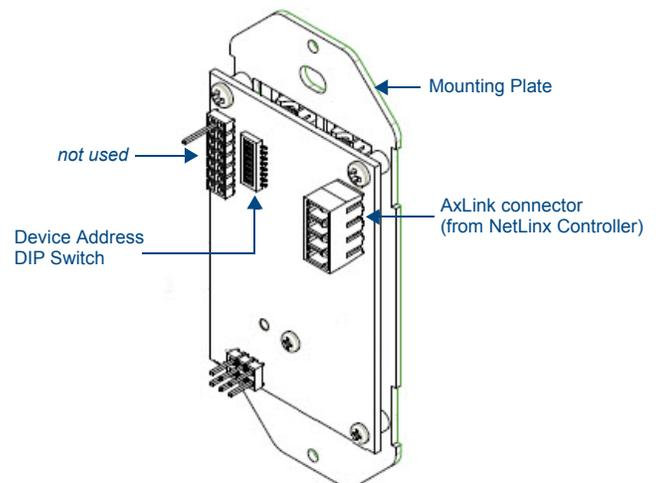

FIG. 4 MET-6N - Rear Components
- Locate the 8-position mini-DIP switch on the rear panel (see FIG. 4).
FIG. 4 shows the basic rear components of the MET-6N keypads: